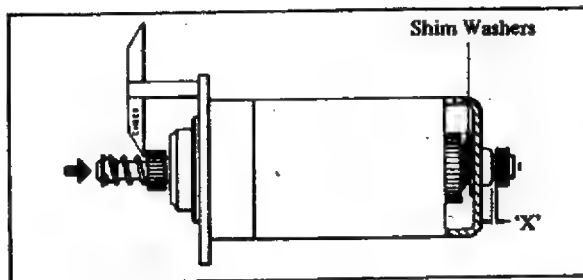

Fig. 74
- (b) When this has been done, push the armature towards the commutator end of the machine as shown in Fig. 74 and again measure gap 'X' which should now be within the limits 2.03 ± 0.50 -0.00 mm. (0.079 \pm 0.02 = 0.00 in.) using Tool No. 6244.4 go no go gauge.